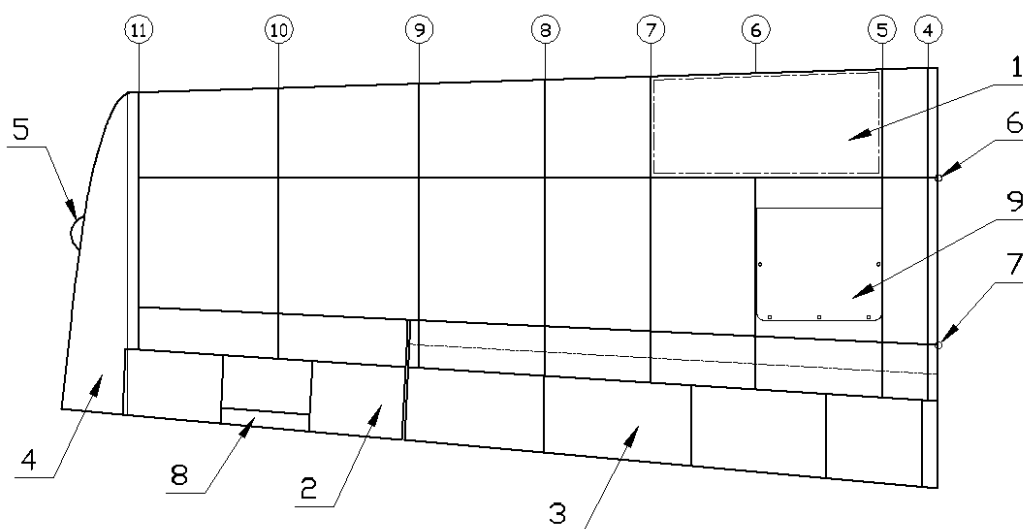

Fig. 4-1
The wing of the airplane is formed from center section of wing made as main and rear spar, which is integrated part of fuselage (Fig. 3-1), and from outer wings placed between ribs No.4 and 12, which have trapezoid shape (Fig. 4-1). The wing is of all-metal main spar structure with a rear spar. In the outer wings are installed between ribs No.5 and 7 leading edge fuel tanks (1), on the rear spar there are hinged ailerons (2) and flaps (3). The winglets (4), produced from fibreglass, are riveted on the wing ribs No.12. On winglets are installed the position lights and anticollision beacons (5). The outer wing is attached to the center section by means of three main attachments (6) (positioned on the main spar) and the rear attachment (7) (positioned on the rear spar). The aileron control push rods are lead between the spars. The aileron trim tab (8) is installed on the left aileron. The trim tab actuator is installed inside of left aileron. The flap control actuator is installed in the fuselage between the seats under the glove box.
Wings are equipped optionally with wing lockers (9) (Fig. 4-1) placed between ribs No.5 and 6 behind main spar. Capacity of each wing locker is 20 kg (44 lbs). Access doors installed on two hinges are locked per lock with two pins.